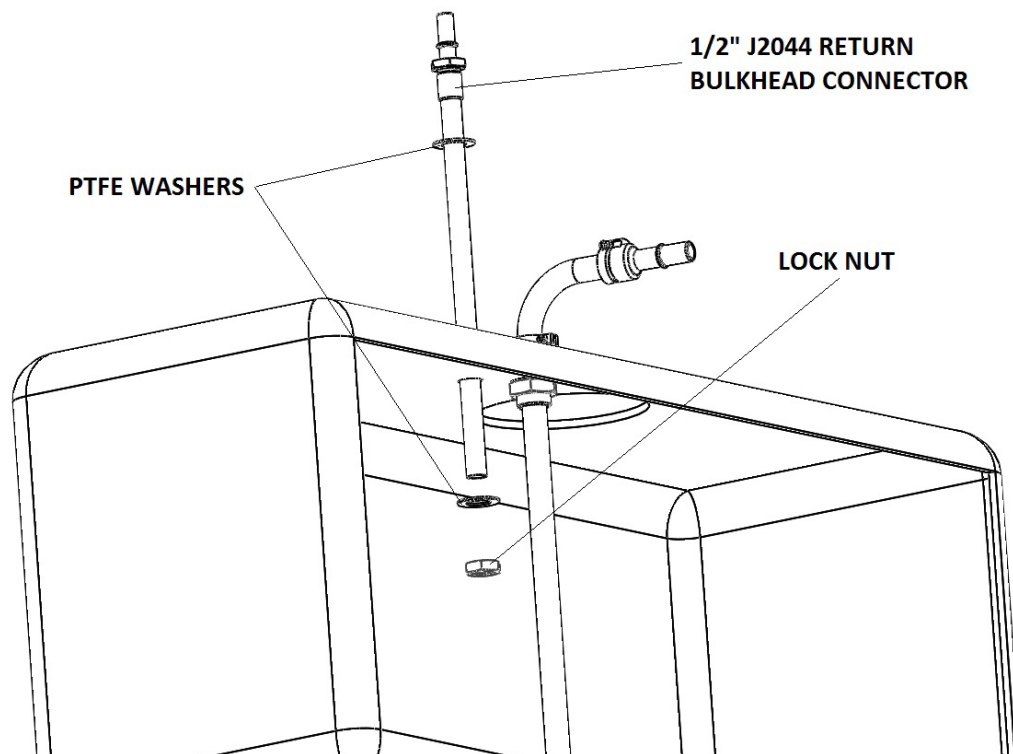

FIGURE 1-7
9. Measure from the top of the hole you just drilled to half way down the black Aeromotive basket. Cut the return tube assembly to length. Insert it into the tank as shown in **FIGURE 1-7**